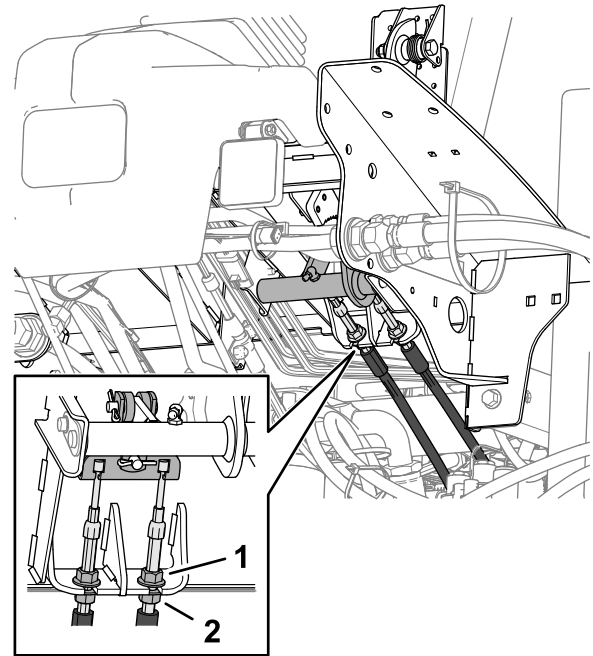

Figure 144
5. To reduce brake pedal-free travel, loosen the front jam nuts on the threaded end of each brake cable (Figure 144).